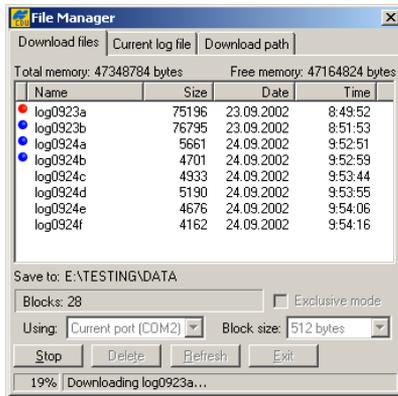

Figure 4-4. Download Files – Status Indicators
6. Click the **Download** button. During the download, status indicators display next to each file (Figure 4-4).